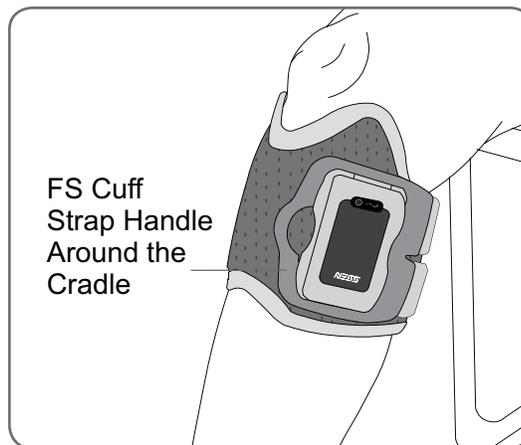

Figure 7-1: Regular L300 FS Cuff fastened on the right leg.
The L300 FS Cuff strap is used to hold the L300 FS Cuff in place on the leg. The L300 FS Cuff strap is elastic, and fastens around the leg and the FS Cuff cradle. See Figure 7-1. The Regular L300 FS Cuff strap comes in three sizes: small (S), medium (M), and large (L). The Small L300 FS Cuff strap comes in two sizes: extra small (XS) and extra extra small (XXS).